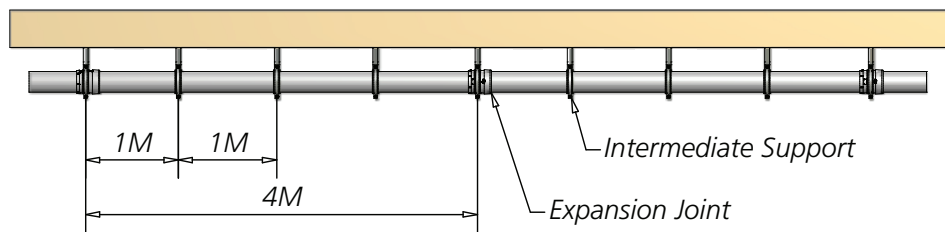

Fig 1
- 1) At spacing's no greater than 4m for pipework 82mm and above (fig 1)